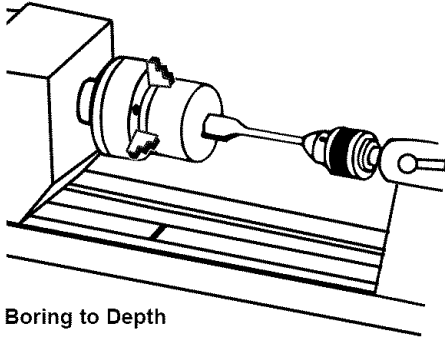

Figure 59 - Boring to Depth
- The first step is to remove as much wood as possible by boring into the center with the largest wood bit available. This can be accomplished as illustrated in Figure 59. Be careful to measure in advance the depth to which drill can be allowed to go.